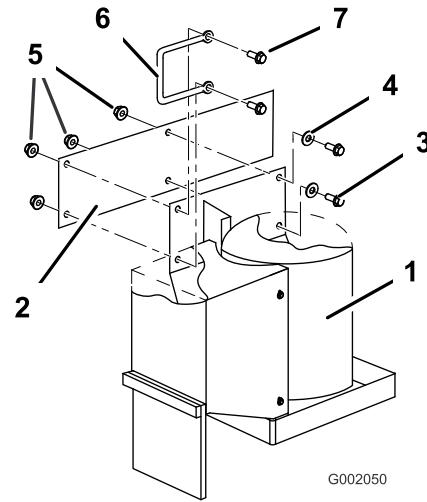

Figure 12
13. Mount the foam marker assembly to the frame using two bolts (3/8 x 1 inch), two washers (3/8 inch), two flange nuts (3/8 inch) included in loose parts; and the left handle and fasteners removed previously (Figure 12).